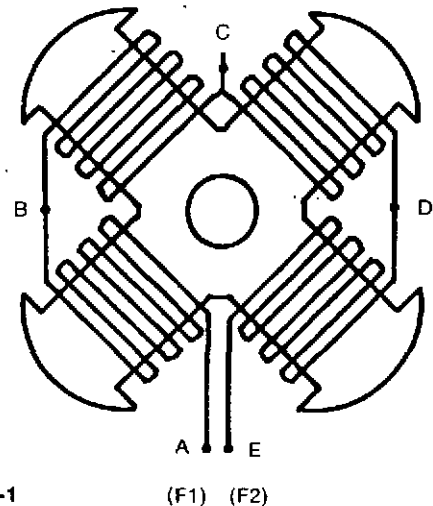

FIGURE 8-1
Step 3: Measure and record voltages across pole. Between points "A" and "B", "B" and "C", "C" and "D", "D" and "E" (Figure 8-1).